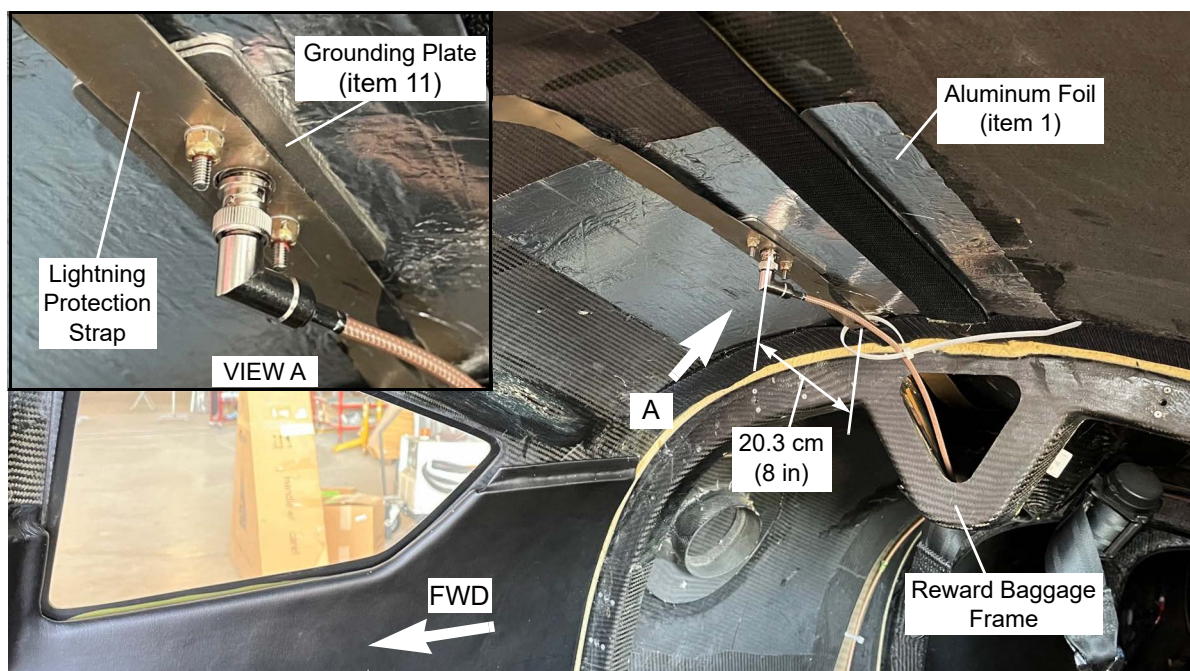

Figure 1.
5.1. Route the coaxial cable to aft through the reward baggage frame (refer to Figure 1). Follow the RH lightning protection strap and into the RH lightning protection conduit.